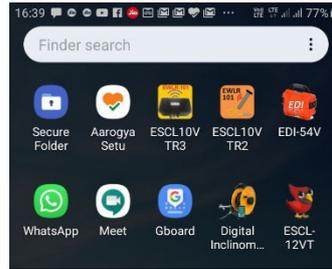

Fig 2-3 Application launcher
- After installing press *DONE* or application can be opened directly by pressing *OPEN*. User can open the application through application launcher also. See Fig 2-3.
Start the Application by a single tap on the icon ESCL-12VT from mobile screen to run the application as shown in Fig 2-3.